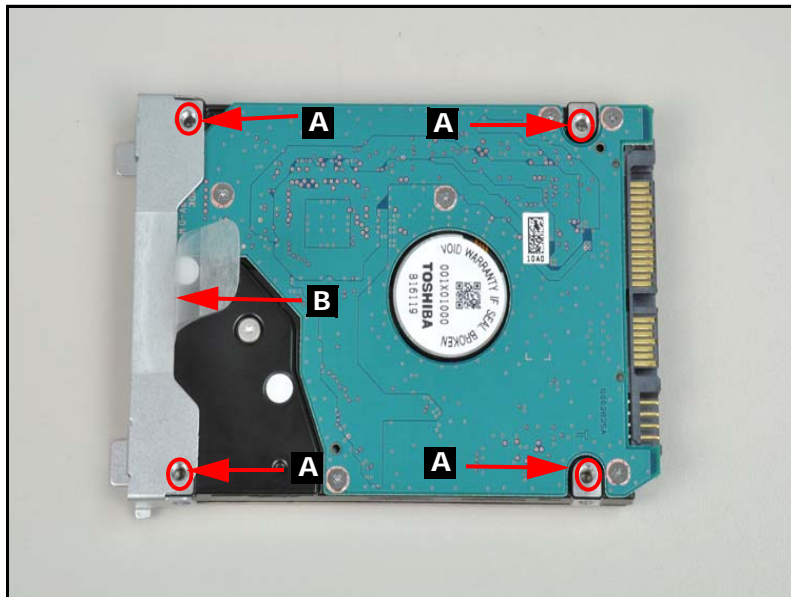

Figure 3-16. HDD Module
1. Put HDD brackets ont HDD module (Figure 3-16).
2. Instal four (4) screws (C) and secure HDD brackets (D) to HDD module (Figure 3-16).